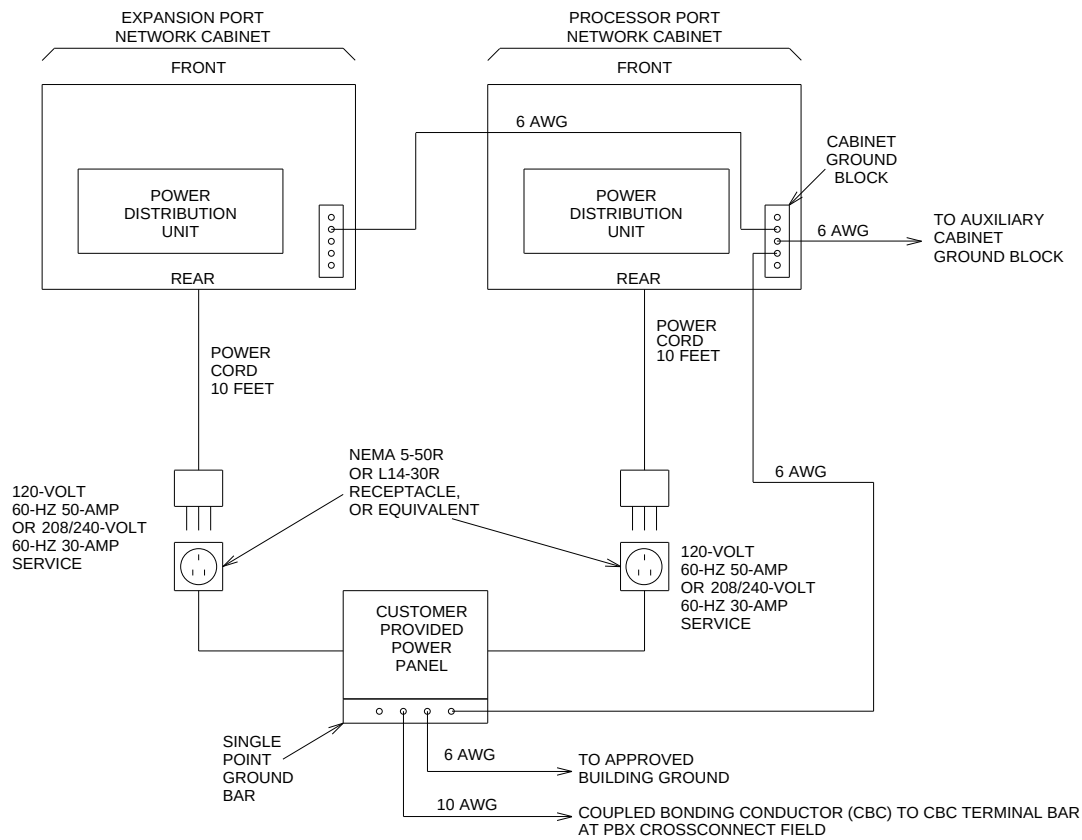

Figure 4-1. Typical AC Power and Grounding Arrangement for a Multi-Carrier Cabinet
1. At lower right rear of PPN cabinet, connect a 6 AWG ground wire to the cabinet ground bar (Figure 4-1). See the accompanying note.
2. Run the ground wire to the single-point-ground-terminal bar at the AC load center (shown as “power panel” in Figure 4-1).
3. At the first EPN cabinet (if provided), connect a 6 AWG ground wire to the cabinet ground bar (Figure 4-1).
4. Run the ground wire to the PPN cabinet, and connect it to the PPN cabinet ground bar (Figure 4-1).
5. At the second EPN cabinet (if provided), connect a 6 AWG ground wire to the cabinet ground bar (Figure 4-1).
6. Run the ground wire to the first EPN cabinet, and connect it to the EPN cabinet ground bar (Figure 4-1).
7. At the AC load center, connect a 10 AWG wire single-point-ground-terminal bar. This ground wire (coupled bonding conductor) will later be tie wrapped to the trunk cables and connected to the coupled bonding conductor ground bar at the cross-connect field and finally terminated at the customer-provided load center (Figure 4-1).
2. Connect cabinet AC line cords to AC power receptacles (Figure 4-1).